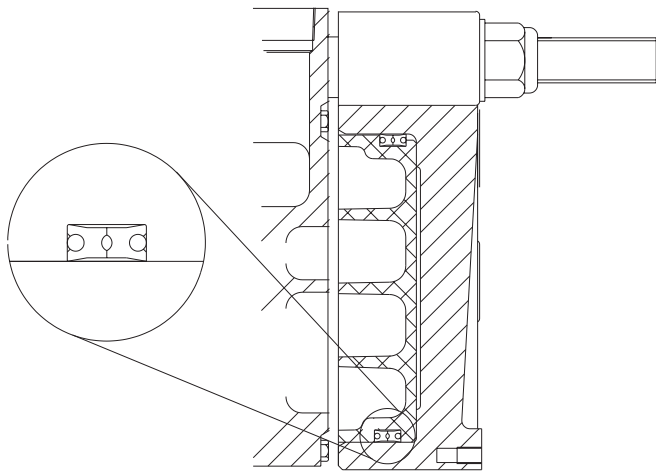

Figure 14
- 4.6.11 Install the new seals in the grooves in the piston, noting the orientation of the seals in Figure 14.